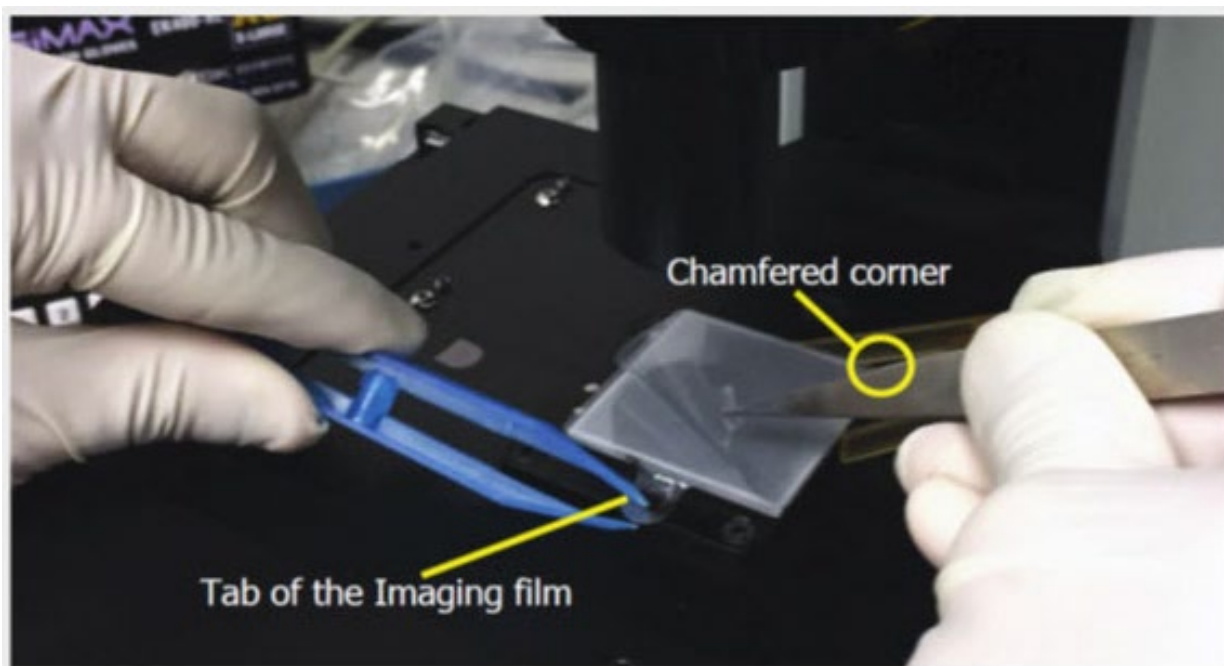

Figure 17. Seating the chip on the microscope holding platform.
- Place the chip on the microscope holding platform with the chamfered (notched) corner facing the upper right corner (Figure 17, below). **Ensure that the chip is sitting flat on the chuck from all sides and is in the correct orientation.**
9. Ensure the chip is perfectly flat and seated square relative to the pins before removing the second release liner. Peel off the top layer release liner of the imaging film using tweezers (Figure 17, above). **Save the release liner.** The chip will remain sealed by the double-sided intermediate film layer.